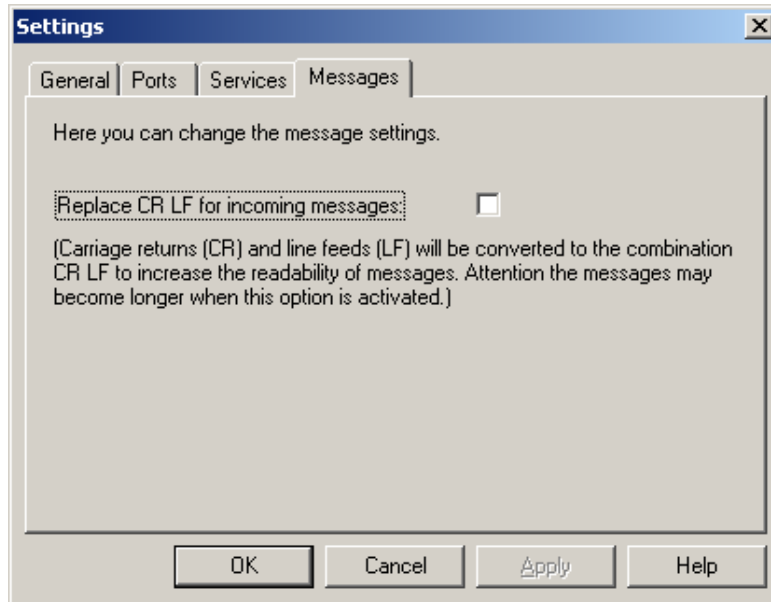

Figure 91. Settings Dialog - Messages Tab
24. Select the **Messages** tab to produce the view shown in Figure 91. Check the check box to increase the readability of messages and click **Apply**. Keep in mind that this may increase the length of the messages.